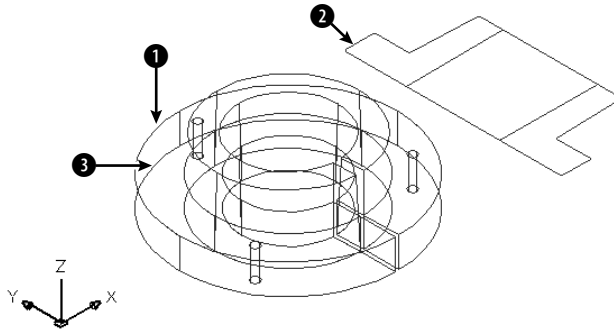

Figure 24-32: A bushing in 2D and 3D. The 3D bushing has been exploded but still looks the same. It can now be used to extend lines.
2. Save the file as `ab24-10.dwg` in your AutoCAD Bible folder. You see a bushing, in 2D and 3D, as shown in Figure 24-32. The 3D bushing has been exploded into simple geometry — otherwise, you wouldn't be able to use it to extend the 2D lines.
Select objects: *Pick the 3D bushing at 1 in Figure 24-32.*